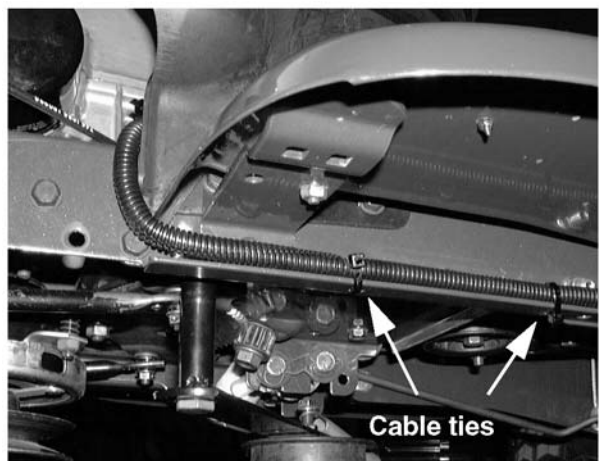

Figure 8-50.
16. Continue to route the wire harness beneath the left side of the fender running board along the tractor's frame. See Figure 8-50.